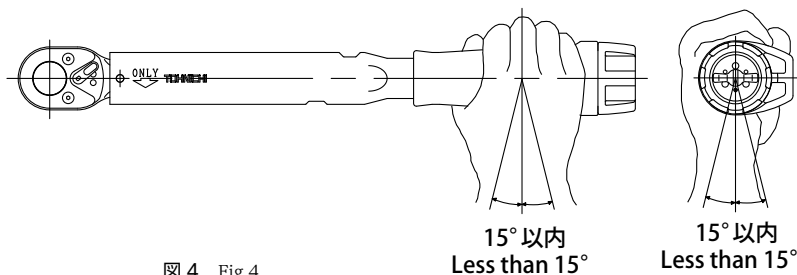

図 4 Fig.4
上下左右とも±15°以内にする。(図4)
- The loading direction must be at a right angle to the torque wrench. The tolerance is plus/minus 15 degrees of horizontal or vertical deviation. See fig. 4.